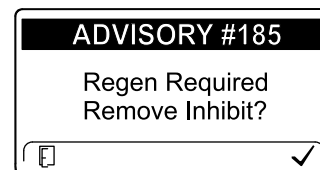

Figure 43
**Note:** If you set the InfoCenter to inhibit regeneration, the InfoCenter displays ADVISORY #185 (Figure 43) every 15 minutes while the engine requests a reset regeneration.